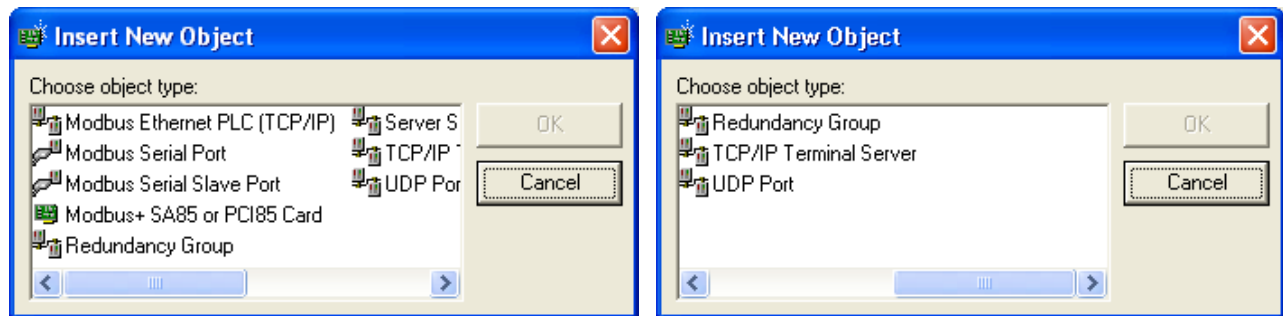

Figure 1 - Insert New Object Window
The **Insert New Object** window (Figure 1) displays a different set of options depending on the type of object selected and the types of objects already configured under it.
Note: Use the scroll bar at the bottom of the window to view all available options. Figure 1 shows two views of the same window so that you can see all of the available options; one view with the scroll bar moved to the left, and one with the scroll bar moved to the right.
2. The **Insert New Object** window (Figure 1) appears.
- The **Insert New Object** window (Figure 1) appears.